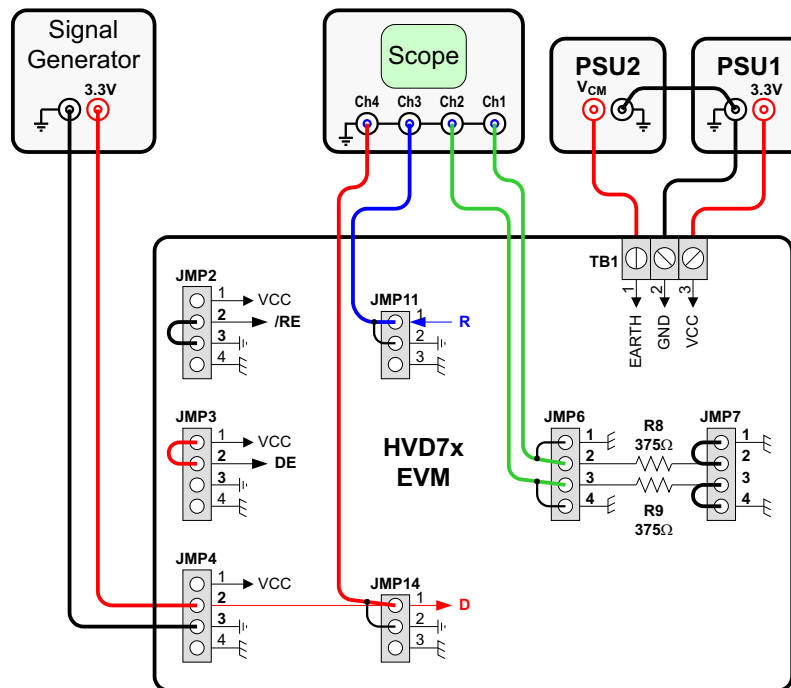

Figure 7. SN65HVD7xEVM Setup for Maximum Loading
- replace the previous wire-bridge at TB1 with a second power supply unit (PSU2) and connect the ground terminals of both, PSU1 and PSU2 with a wire-bridge, as shown in Figure 7.
Note that Figure 7 only shows the wiring of PSU2 for positive common-mode voltages. For negative V_{CM} , connect the ground terminal of PSU2 with pin 1 of TB1 (EARTH), and the V_{CM} -output of PSU2 with the ground terminal of PSU1.